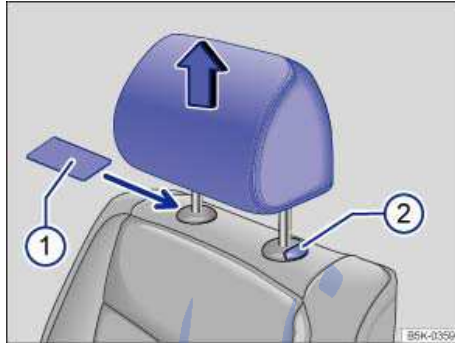

Fig. 39 Removing the front head restraints.
- Slide a flat object, such as a plastic credit card, underneath the right side of the cap on the right-hand seat guide rod ⇒ fig. 39 \(1\) to unlock the head restraint.